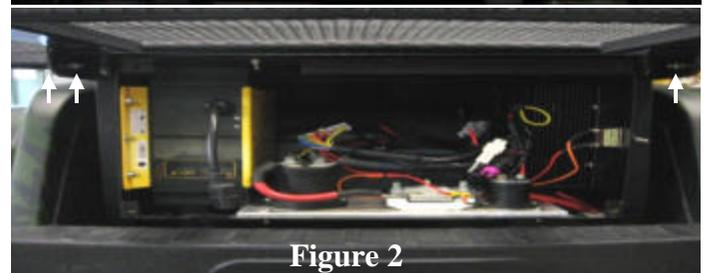

Figure 2
2. Remove the 4 bolts securing the basket onto the back of the cart. Remove basket. See Figures 2 & 3.